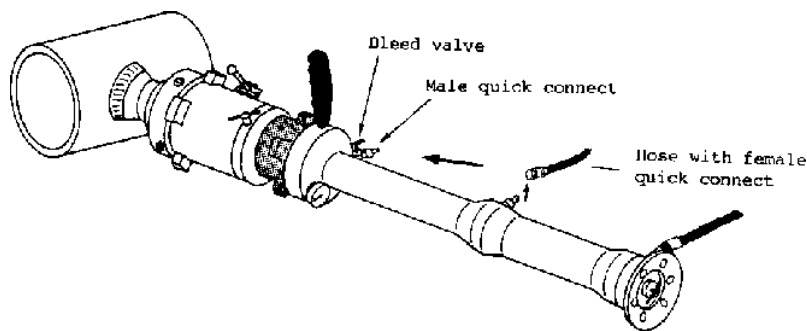

Fig. 12
- Disconnect the hose from the female quick coupling on "the middle of" the retriever, and connect it to the Back Pressure Quick Coupling Assy. on the Bleed-off Valve. Ensure that the bleed valve is open (fig. 12).